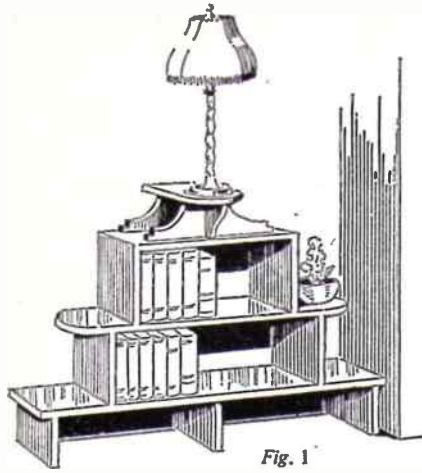

Fig. 1
HERE is a pleasing piece of furniture that will fit the fireplace recess of a room, or, of course, it is equally suitable to be placed against a plain wall. As will be seen from Fig. 1 it has been designed with a central stand or bracket to take an electric lamp.
Wood  $\frac{3}{4}$  in. thick is used throughout, and the lengths of the shelves may be designed to suit any particular width of recess. In Fig. 2 the dimensions are given, and it should not be difficult to set out the various pieces, allowing for the housings of the uprights if it is decided to include them in the work. At (G) in Fig. 1 the method of forming the stopped-housings is shown, and at (H), stiffening plates which may be of stout brass to go at the rear of the shelves and their uprights.